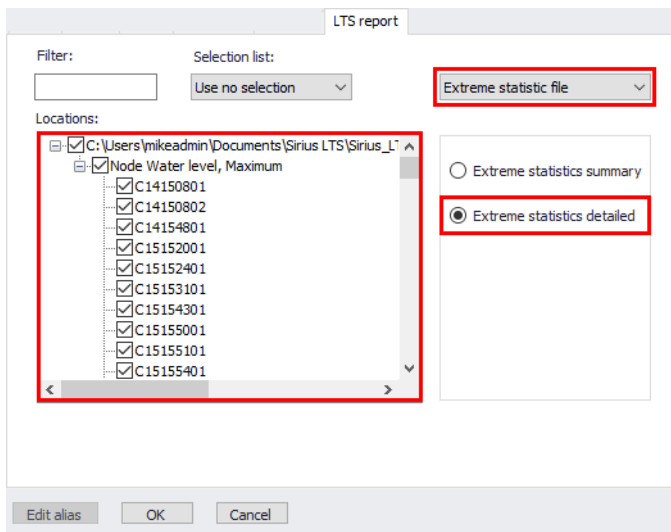

Figure 20.71 Detailed LTS extreme event statistics report configuration
- Access the ‘LTS Report’ tab on the ‘Result Items’ dialog (Figure 20.71).
- Choose to generate a report with the ‘Extreme statistics file’ from the dropdown menu on the upper right side of the page (Figure 20.71).